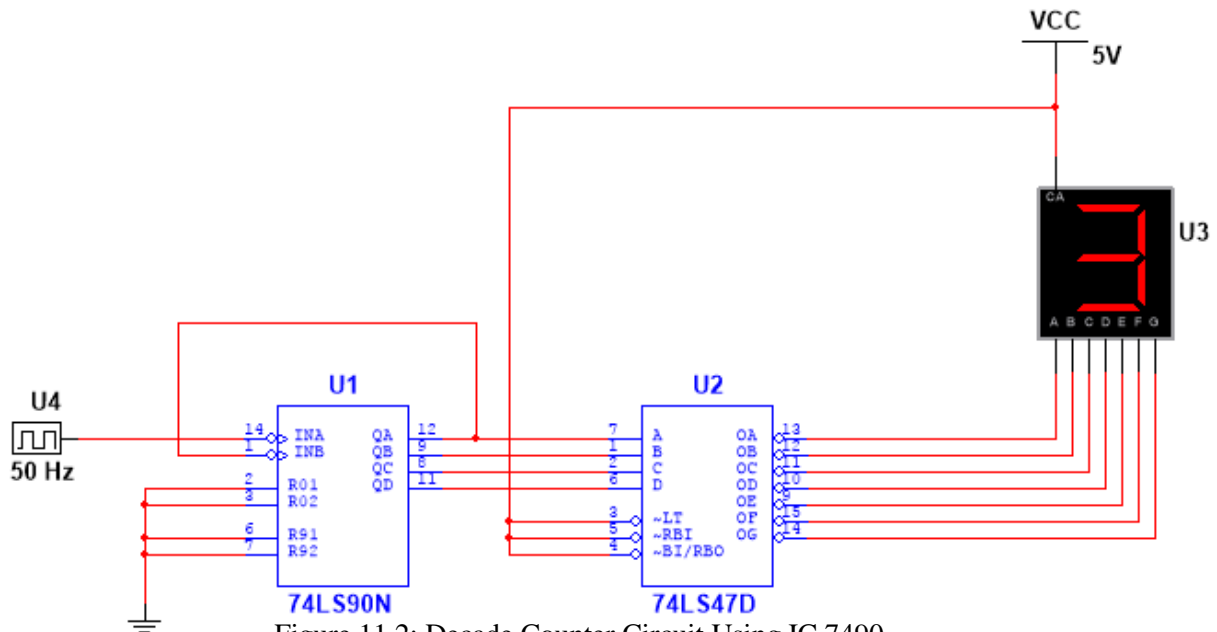
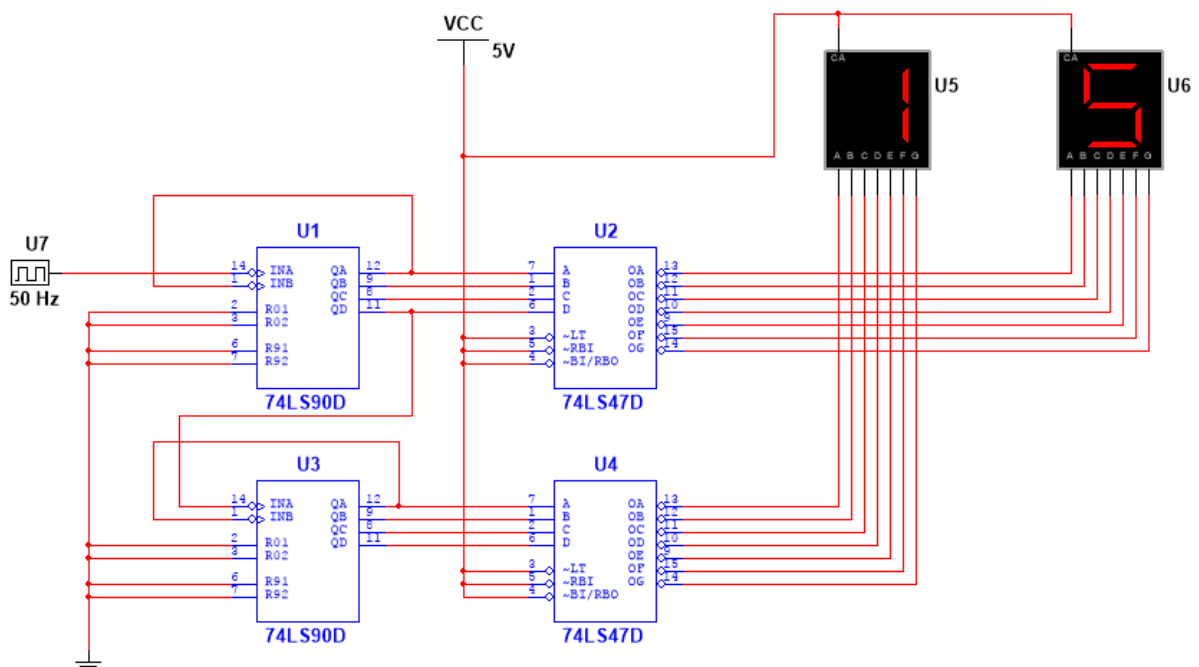

Figure 11.2: Decade Counter Circuit Using IC 7490
Figure 11.3: MOD 100 (0-99) Counter Circuit Using IC 7490
1. Construct the circuits as shown in Figure 11.2 and Figure 11.3.